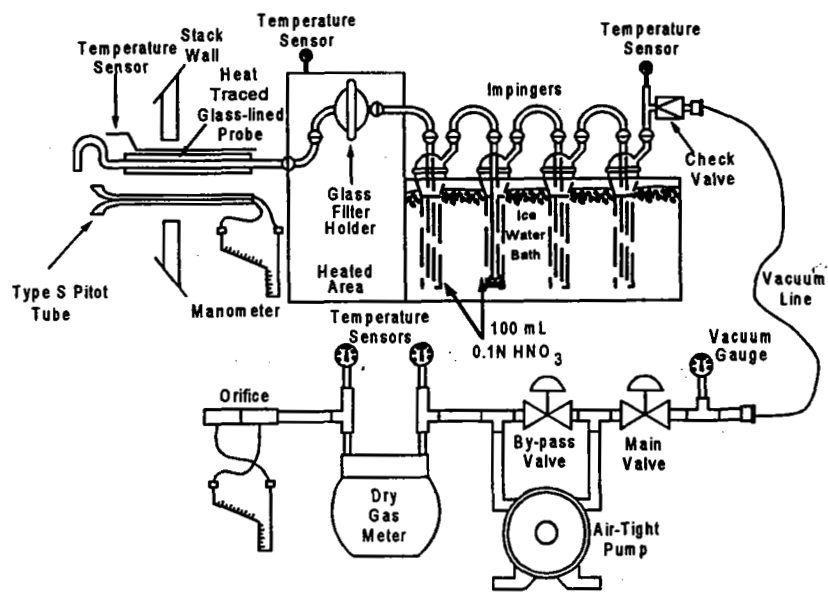

Figure F12-1. Inorganic Lead Sampling Train.
2. Assemble the train as shown in Figure F12-1. Use impingers rather than an alternative condenser system.